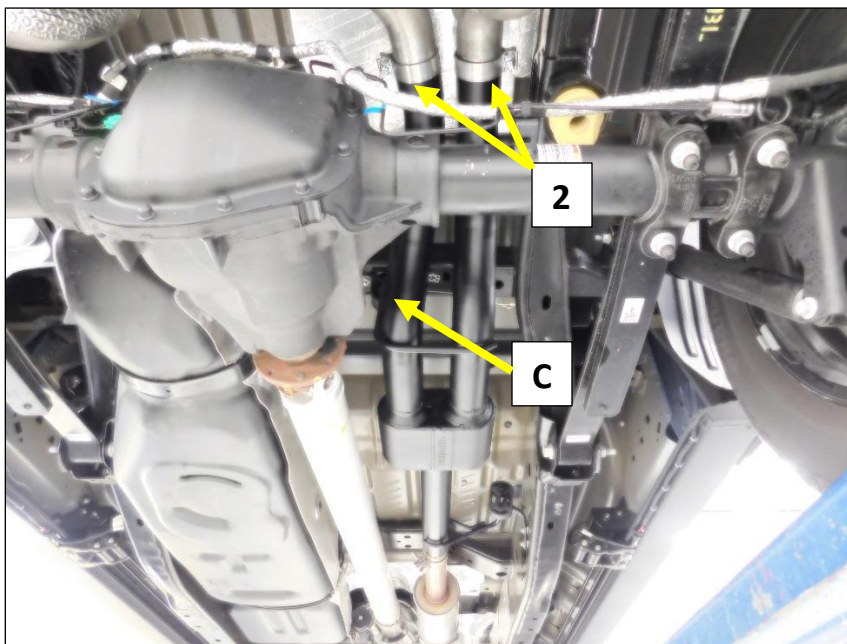

Figure 7
3. Re-install the muffler hanger assembly (C) on to the rear muffler hanger rod, and install the isolator assembly to the crossmember. **NOTE:** Be sure the tab of the isolator body is in the slot. **Fig.7**
4. Install a 3.0" band clamp (2) onto each of the two muffler outlet pipes with the bolts to the outside and the nuts facing down. **Fig.7**